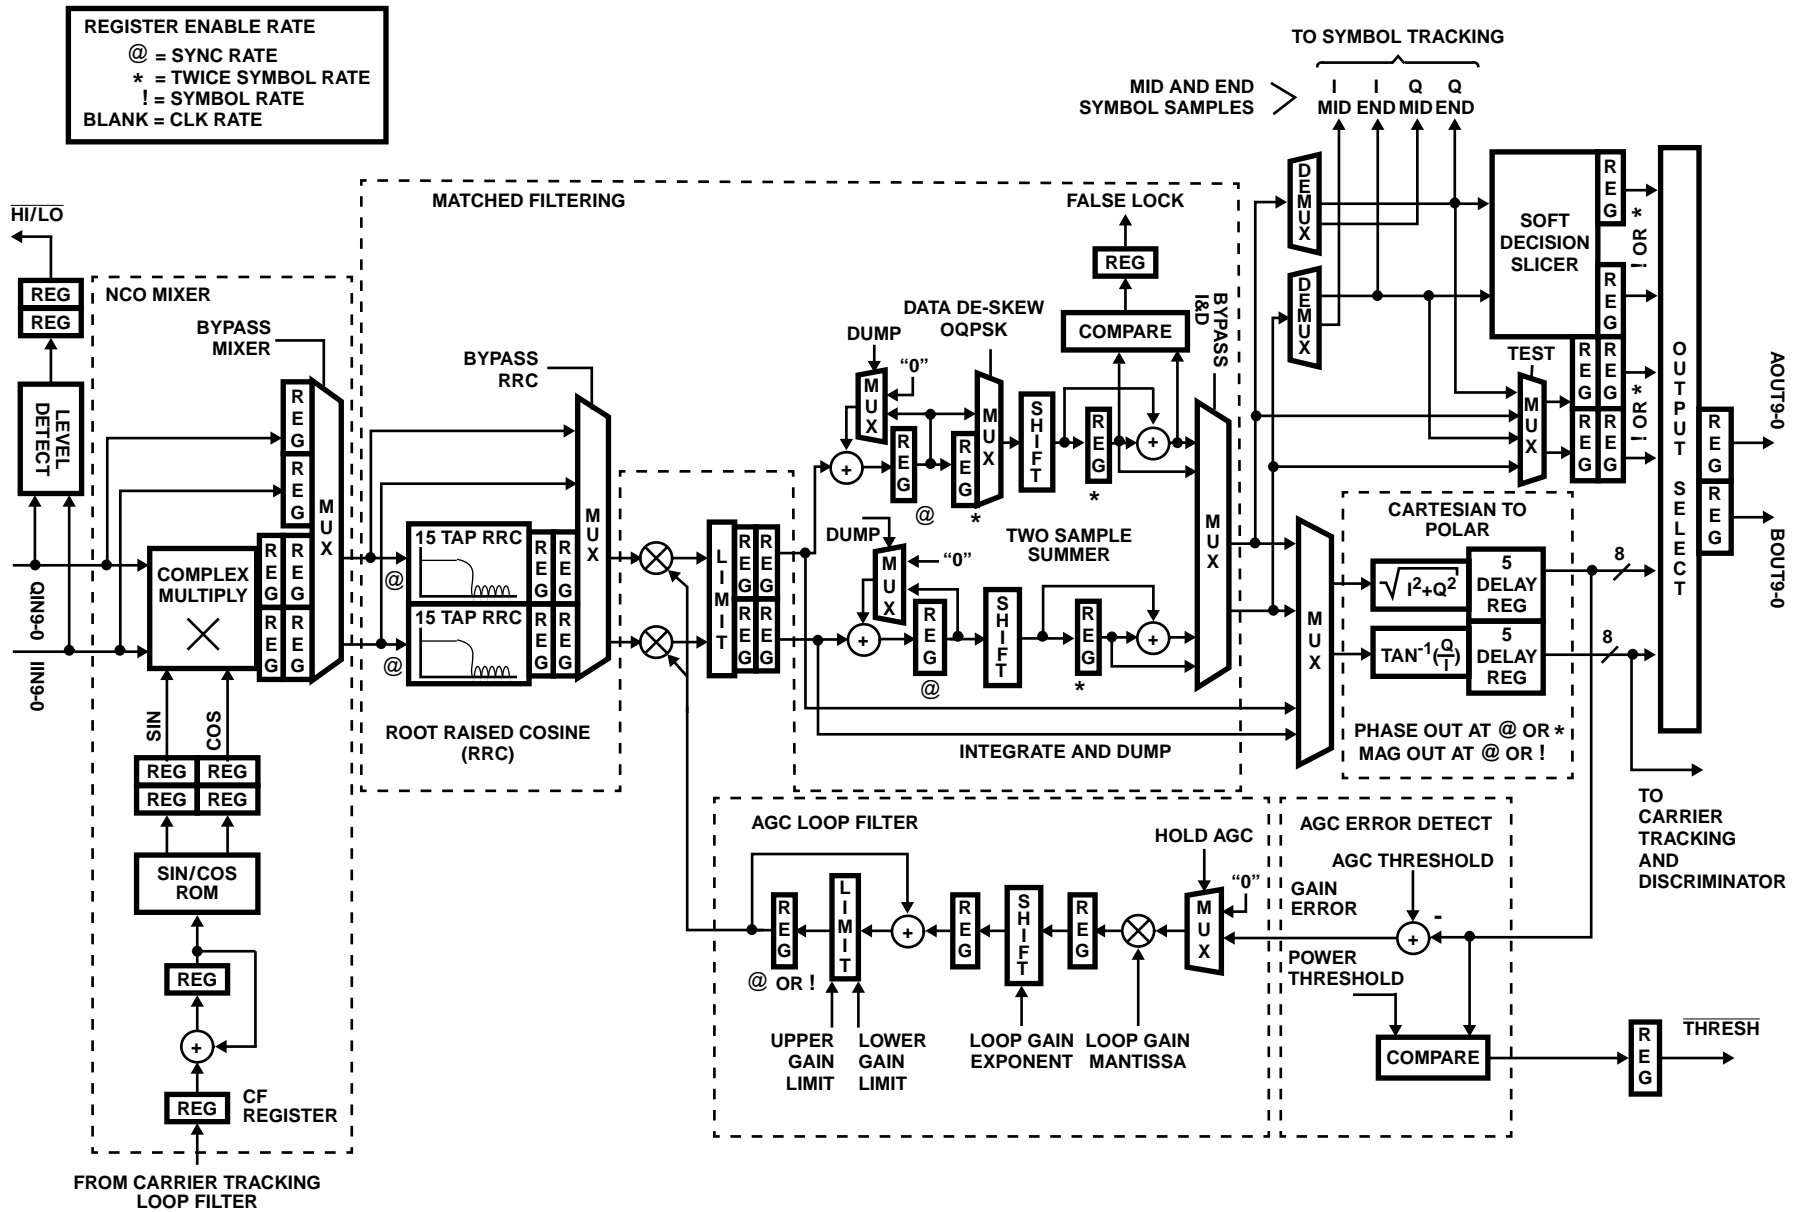

FIGURE 3. MAIN DATA PATH
Equation 3 illustrates how the complex multiplier implicitly performs the summing function when the DCL is configured as a modulator. The quadrature outputs of the NCO are generated by driving a sine/cosine look-up table with the output of a phase accumulator as shown in Figure 3. Each time the phase accumulator is clocked, its sum is incremented by the contents of the Carrier Frequency (CF) Register. As the accumulator sum increments from 0 to 2^{32} , the SIN/COS ROM produces quadrature outputs whose phase advances from 0 to 360° . The CF Register contains a 32-bit phase increment which is updated with the output of
The HSP50210 provides two selectable matched filters: a Root Raised Cosine Filter (RRC) and an Integrate and Dump (I&D) filter. These are shown in Figure 3. The RRC filter is provided for shaped data pulses and the I&D filter is provided for square wave data. The filters may be cascaded for better adjacent channel rejection for square wave data. If these two filters do not meet baseband filtering requirements, then they can be bypassed and an external digital filter (such as the HSP43168 Dual FIR Filter or the HSP43124 Serial I/O Filter) used to implement the desired matched filter. The desired filter configuration is set in the Data Path Configuration Control Register, bits 1-7 (see Table 14).
The I&D filter consists of an accumulator, a programmable shifter and a two sample summer as shown in Figure 3. The programmable shifter is provided to compensate for the gain introduced by the accumulator (see Table 14). The accumulator provides Integrate and Dump Filtering for decimation factors up to 16. The two sample summer provides the moving average required for an additional decimation factor of 2. A decimation factor of 1 (bypass), 2, 4, 8, 16, or 32 may be selected. At the maximum decimation rate, a baseband signal sampled at 32 times the symbol rate can be filtered.